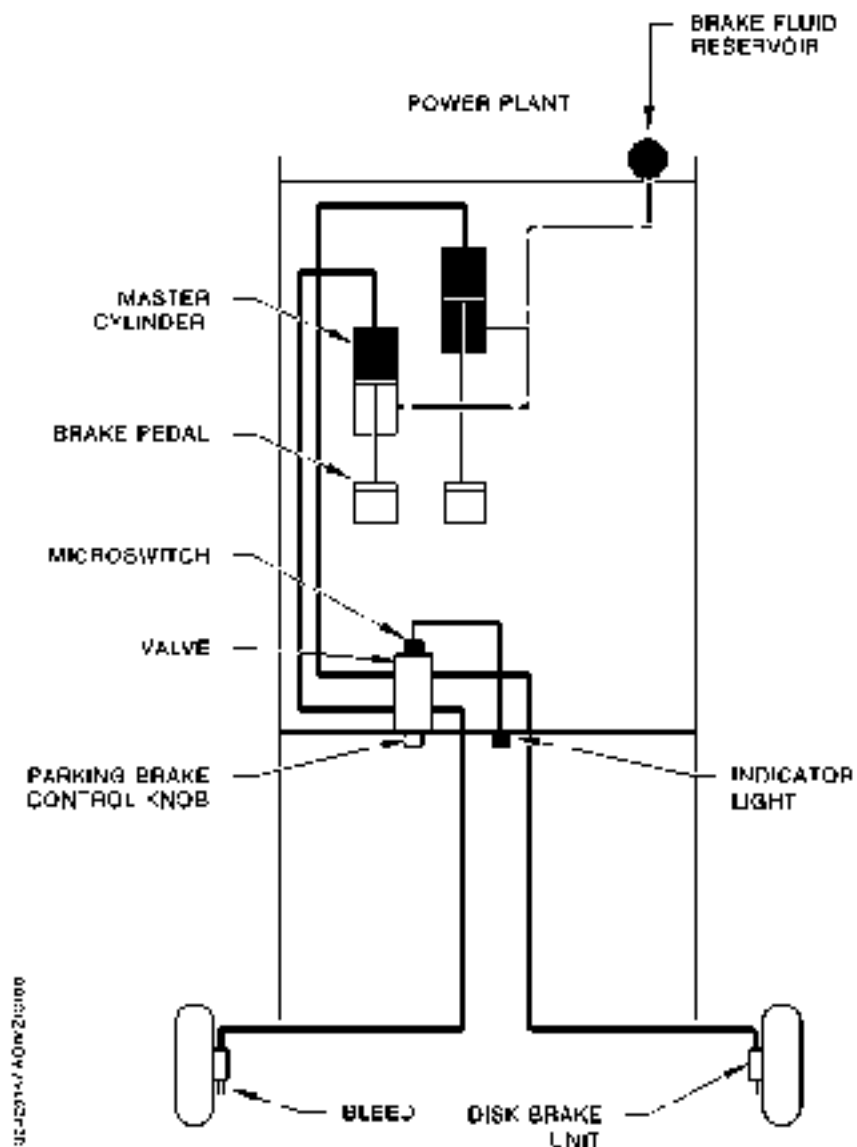

Figure 7.15 - BRAKE SYSTEM (LH. station only)
■ BRAKING (see Figure 7.15 or 7.15A)